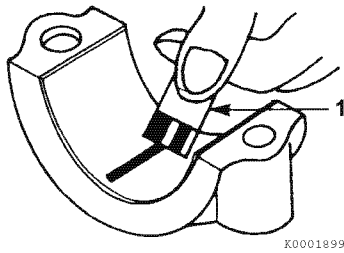

Figure 6-53
- 6- Compare the width of the flattened PLASTIGAGE to the graduation marks on the package (1, **Figure 6-53**). The mark that most closely matches the width of the flattened PLASTIGAGE will indicate the bearing oil clearance.